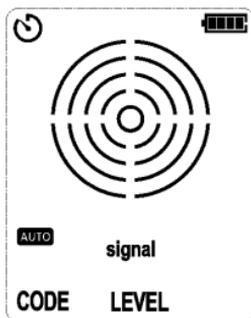

Figure 6.2.3a – Auto Mode
1. The receiver is in powered-on state: In AUTO or MANUAL mode (in cable tracking mode), short press the NCV button to switch to NCV mode. In NCV mode, short press the NCV button to switch to AUTO mode (cable tracking mode). As shown in **Figures 6.2.3a, 6.2.3b and 6.2.3c**.